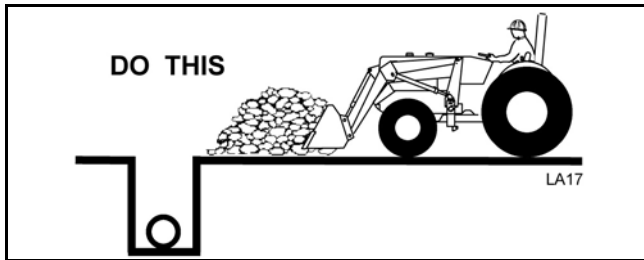

Figure 21. Backfilling Correctly
1. Approach the pile with a flat bucket, Figure 21.